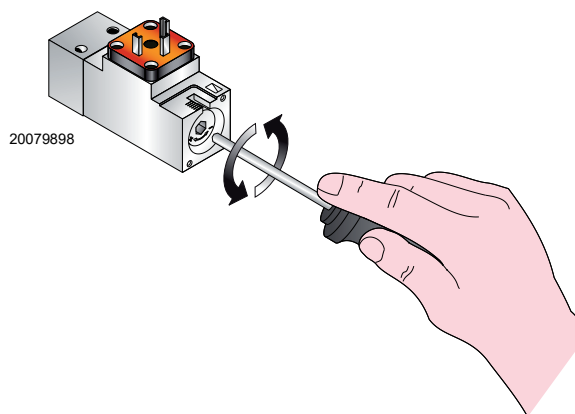

Fig. 38
5.11.5 Maximum oil pressure switch (Fig. 38)